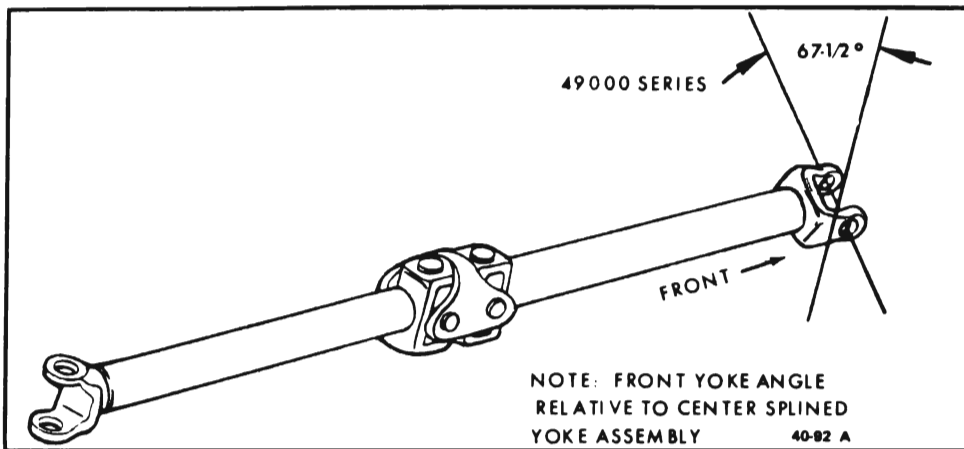

Figure 40-79 - Propeller Shaft Phasing
2. Align the index, spring with the missing internal spline in the rear end of the front propeller shaft and slide the slip joint together. See Figure 40-79 for proper phasing of the propeller shaft.